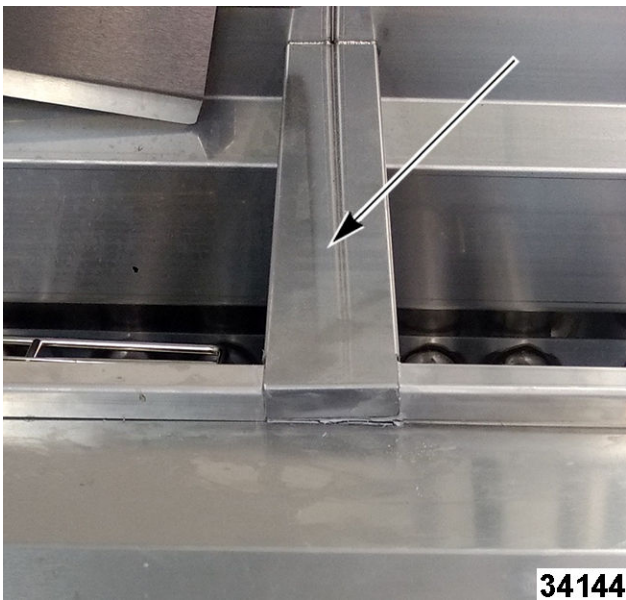

Fig. 110
3. Remove banking strip (if a multiple tank unit) (Fig. 110).